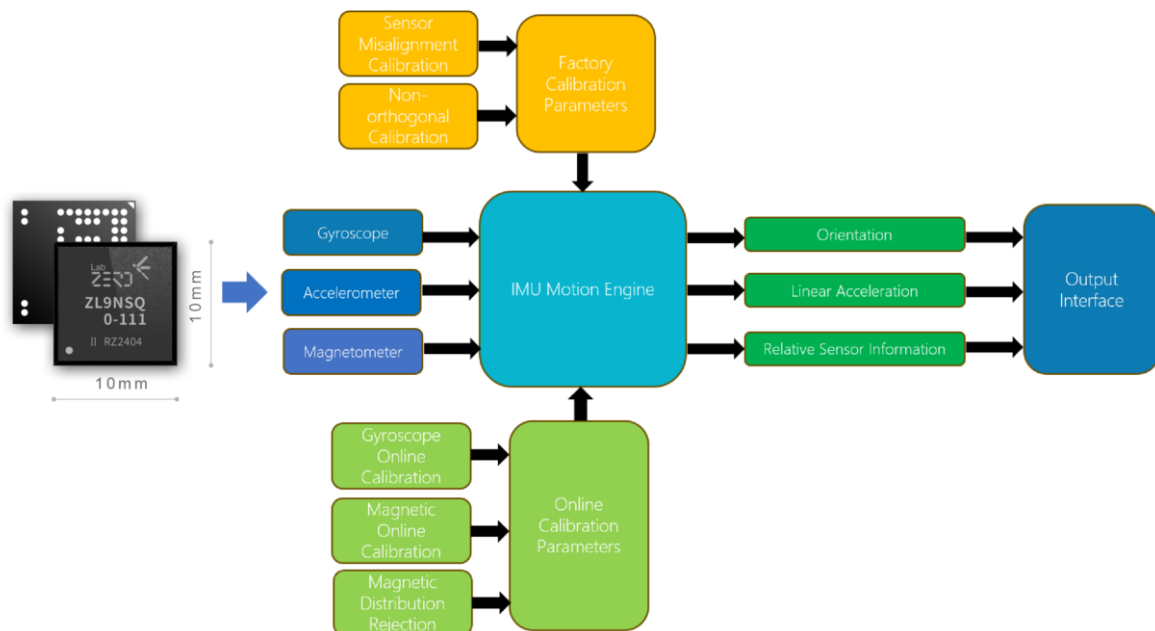

Figure 1 ZL9NSQ functional block diagram
- Figure 1 ZL9NSQ Functional Block Diagram4